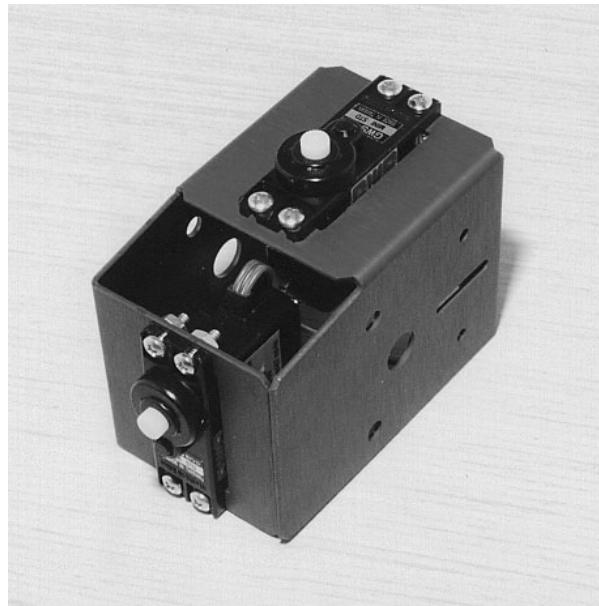

Figure 1-2
- (1) Toddler Servo Motor
Install the bottom servo with the shaft oriented towards the front of the robot as shown in Figure 1-2. Using four (4) 4/40 3/8" machine screws and (4) 4/40 nuts, screw the stride servo into the body.